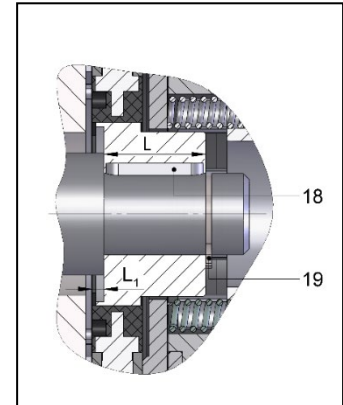

Fig. 7/1: Hub (13) position
Slip the hub (13) on a shaft (17) provided with a feather key (18) to DIN 6885, sheet 1, and secure it axially (with a shaft collar, circlip (19) or the like). Make sure that the hub (13) is set back by L_1 (see Fig. 7/1 and Table 7/1) relative to the friction surface of the friction disc (7). If a friction plate (12) or flange ³⁾ (12) (accessories) is used, mount the friction plate (12) or flange ³⁾ (12) to the mounting surface (9) (e.g. motor end shield). Push the friction disc (7) onto the hub (13). Check that you feel only little resistance when sliding the friction disc (7) along the hub (13). Then fix the field coil of the spring-applied single-disc brake to the mounting surface (9) (e.g. motor end shield) by means of the mounting screws (14). If sealing rings (16) (accessories) are used, they must be slipped on the mounting screws (14).
The M_A tightening torque (see Table 7/1) specified for the mounting screws (14) must be strictly observed. Tighten the mounting screws (14) evenly in several steps. The axial position of the hub (13) (see Fig. 7/1 and Table 7/1) must be maintained to ensure reliable torque transmission by the hub (13).